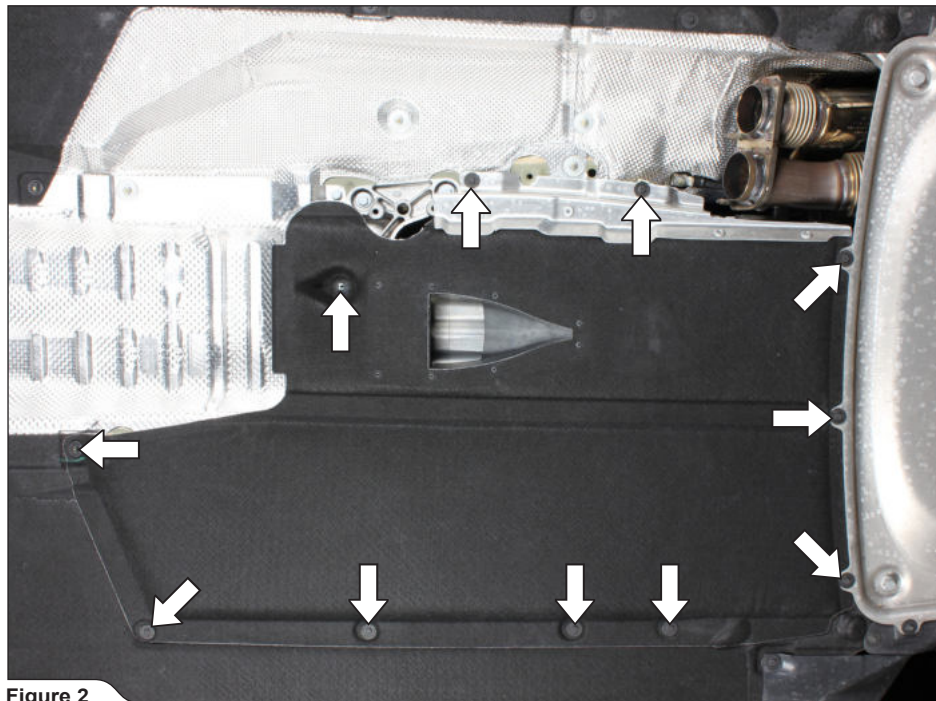

Figure 2
2. Unscrew marked bolts and nuts and remove the transmission and engine protection (Figure 2, 3).